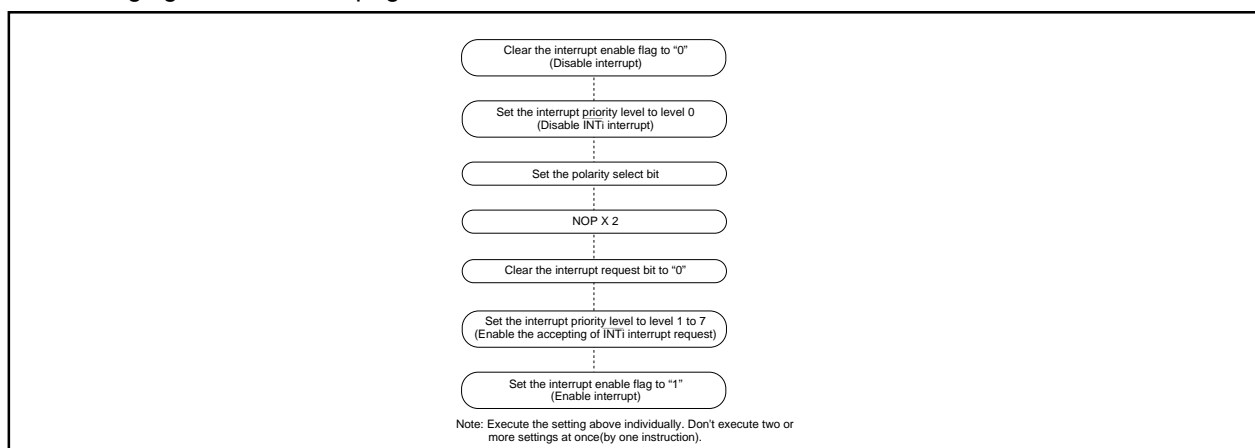

Figure 1.11.13. Switching condition of  $\overline{\text{INT}}$  interrupt request
- When the polarity of the  $\overline{\text{INT}}_0$  to  $\overline{\text{INT}}_2$  pins is changed, the interrupt request bit is sometimes set to "1". After changing the polarity, set the interrupt request bit to "0". Figure 1.11.13 shows the procedure for changing the  $\overline{\text{INT}}$  interrupt generate factor.